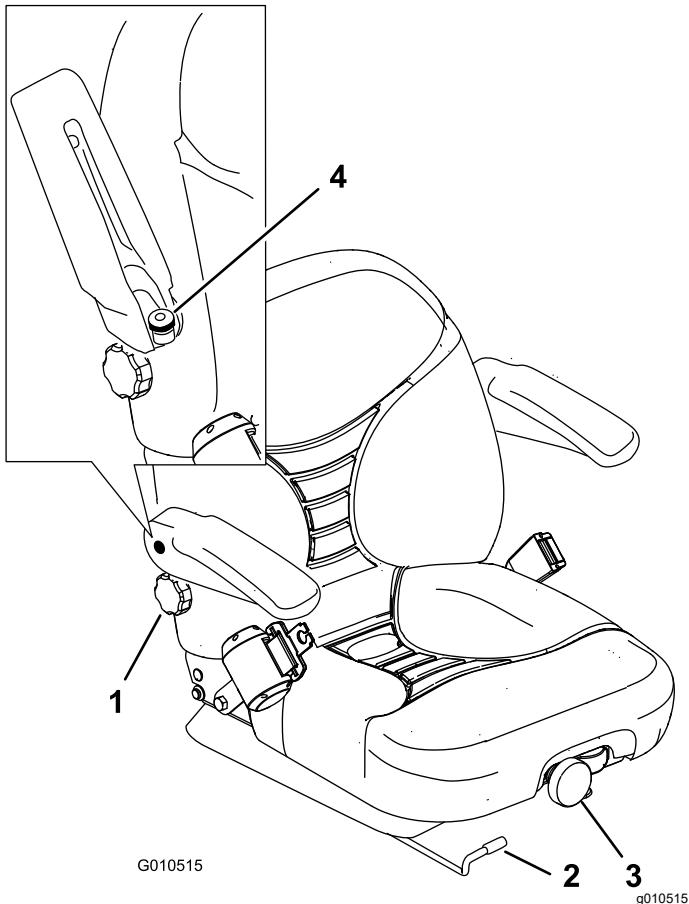

Figure 32
1. Move the lever sideways to unlock the seat (Figure 32).
To adjust it, turn the front knob in either direction to provide the best comfort (Figure 32).
To adjust it, turn the knob under the right armrest, in either direction, to provide the best comfort (Figure 32).
Raise the armrest and turn the knob, in either direction, to provide the best comfort (Figure 32).